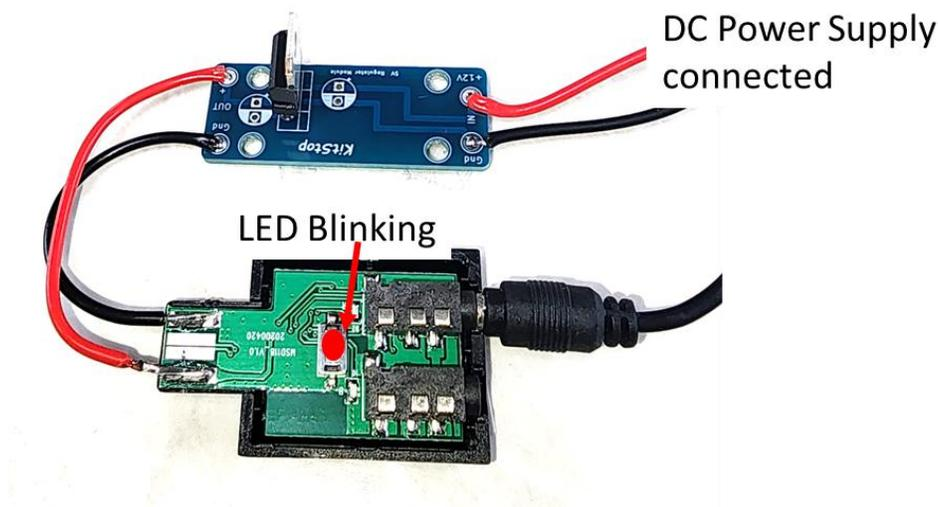

Fig. 12: Testing the USB Bluetooth Dongle and showing the red LED is working.
Step 5:b The red LED on the Bluetooth Dongle should start to flash. (Refer to figure 12.)